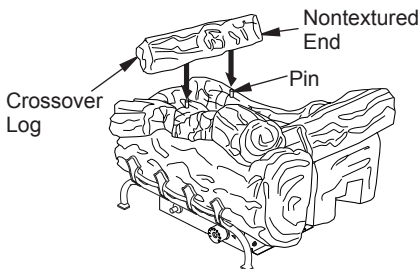

Figure 19 - Installing Crossover Log (#3)
3. Place crossover log onto pins on main log and front log (see Figure 19, page 16). *Note: Nontextured end of crossover log faces back of firebox and will not be seen from front of log set.*